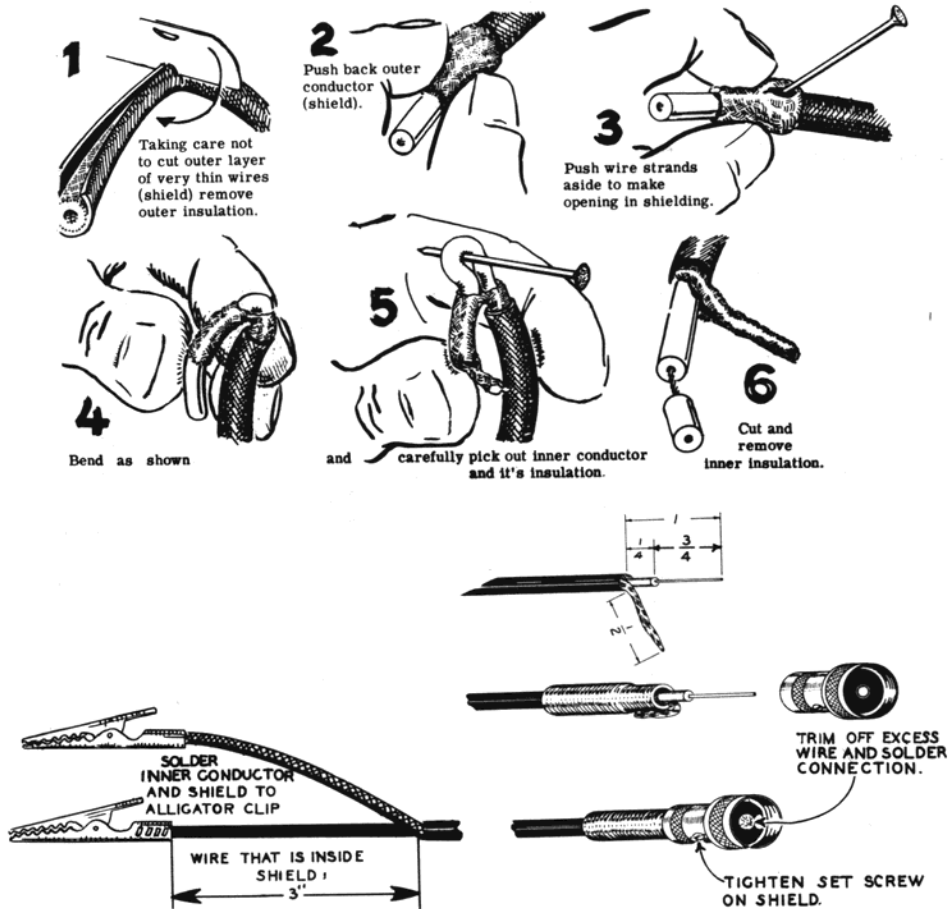

Figure 12
- () Prepare the output cable as shown in Figure 12.